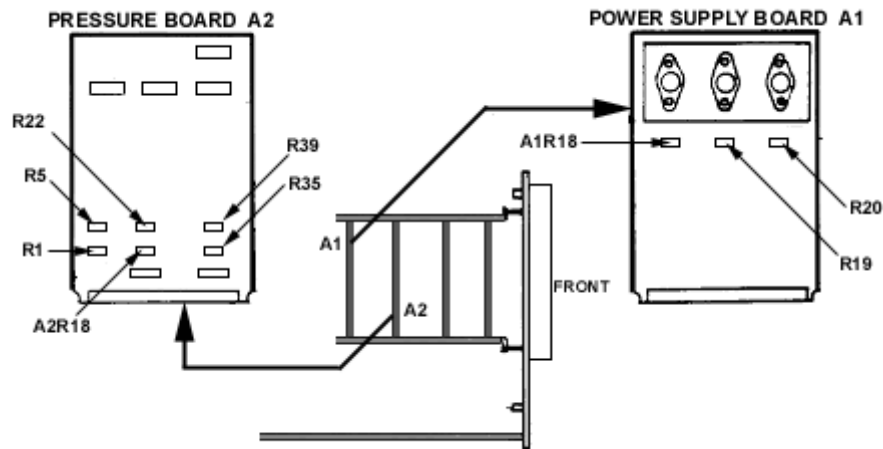

Figure 4. Simulator unit - internal left view.
(1) Set autotransformer and dc power supply to **OFF**, and calibrator to **STBY**.
(2) Remove pressure board A2 (fig. 4) and reinstall, using extender board.
(3) Set autotransformer, dc power supply, and calibrator power to **ON**.
(4) Adjust R5 (fig. 4) for a 3.591 V ac indication on digital multimeter (R).
(5) Turn **ENGINE OIL PRESS NO. 1** variable control fully ccw.
- (6) Adjust R1 (fig. 4) for a 3.591 V ac indication on digital multimeter (R).
- (7) Adjust R22 (fig. 4) for a 3.591 V ac indication on digital multimeter (R).
- (8) Turn **ENGINE OIL PRESS NO. 2** variable control fully ccw.
- (9) Adjust A2R18 (fig. 4) for a 3.591V ac indication on digital multimeter (R).
- (1) Set autotransformer and dc power supply to **OFF**, and calibrator to **STBY**.
- (2) Remove pressure board A2 (fig. 4) and reinstall, using extender board.
- (3) Set autotransformer, dc power supply, and calibrator power to **ON**.
- (4) Adjust R39 (fig. 4) for a 3.591-V ac indication on digital multimeter (R).
- (5) Turn **XMSN OIL PRESS** variable control fully ccw.
- (6) Adjust R35 (fig. 4) for a 3.591 V ac indication on digital multimeter (R).
- (7) Repeat **a** (2) through (6) above and adjust for best in-tolerance condition.